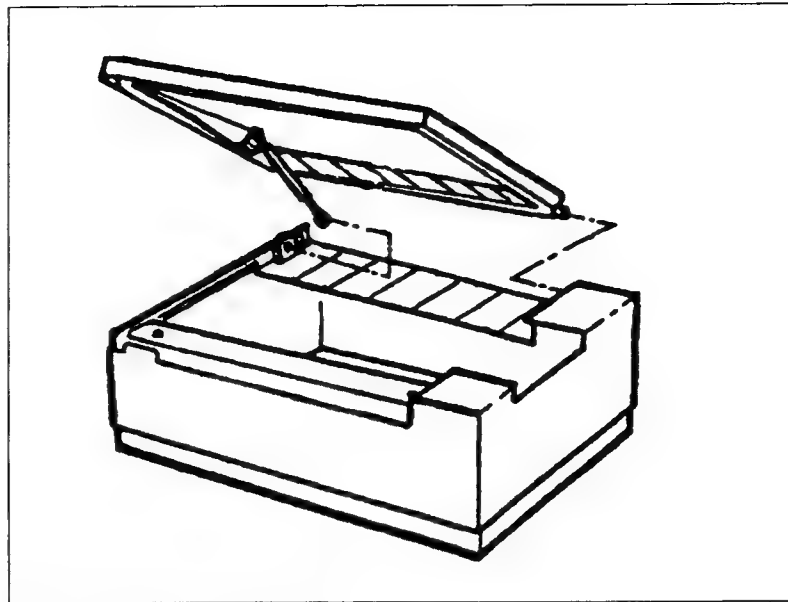

Figure 5-4. Top Cover (front view)
- a. Remove the screw in the lower end of the gas shock and remove the printer access door from the top cover as shown in Figure 5-4 (see NOTE above).